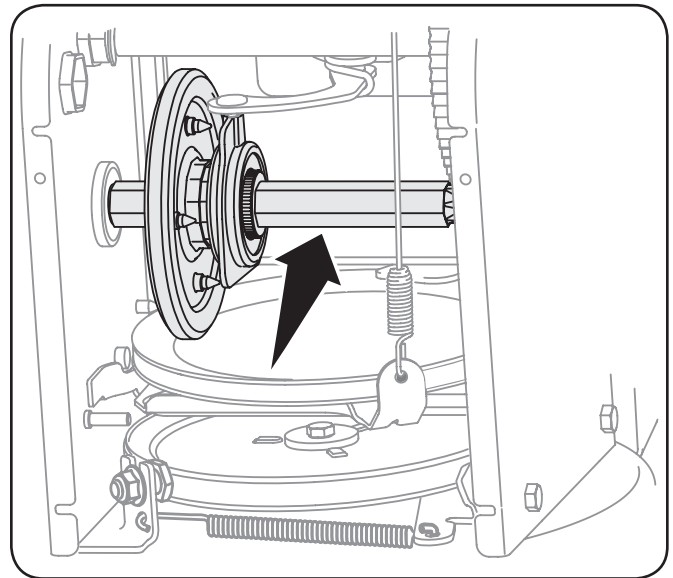

Figure 6-2
4. Apply a light coating of Anti-Seize Regular Grade NS-42B to the hex shaft. See Figure 6-2.